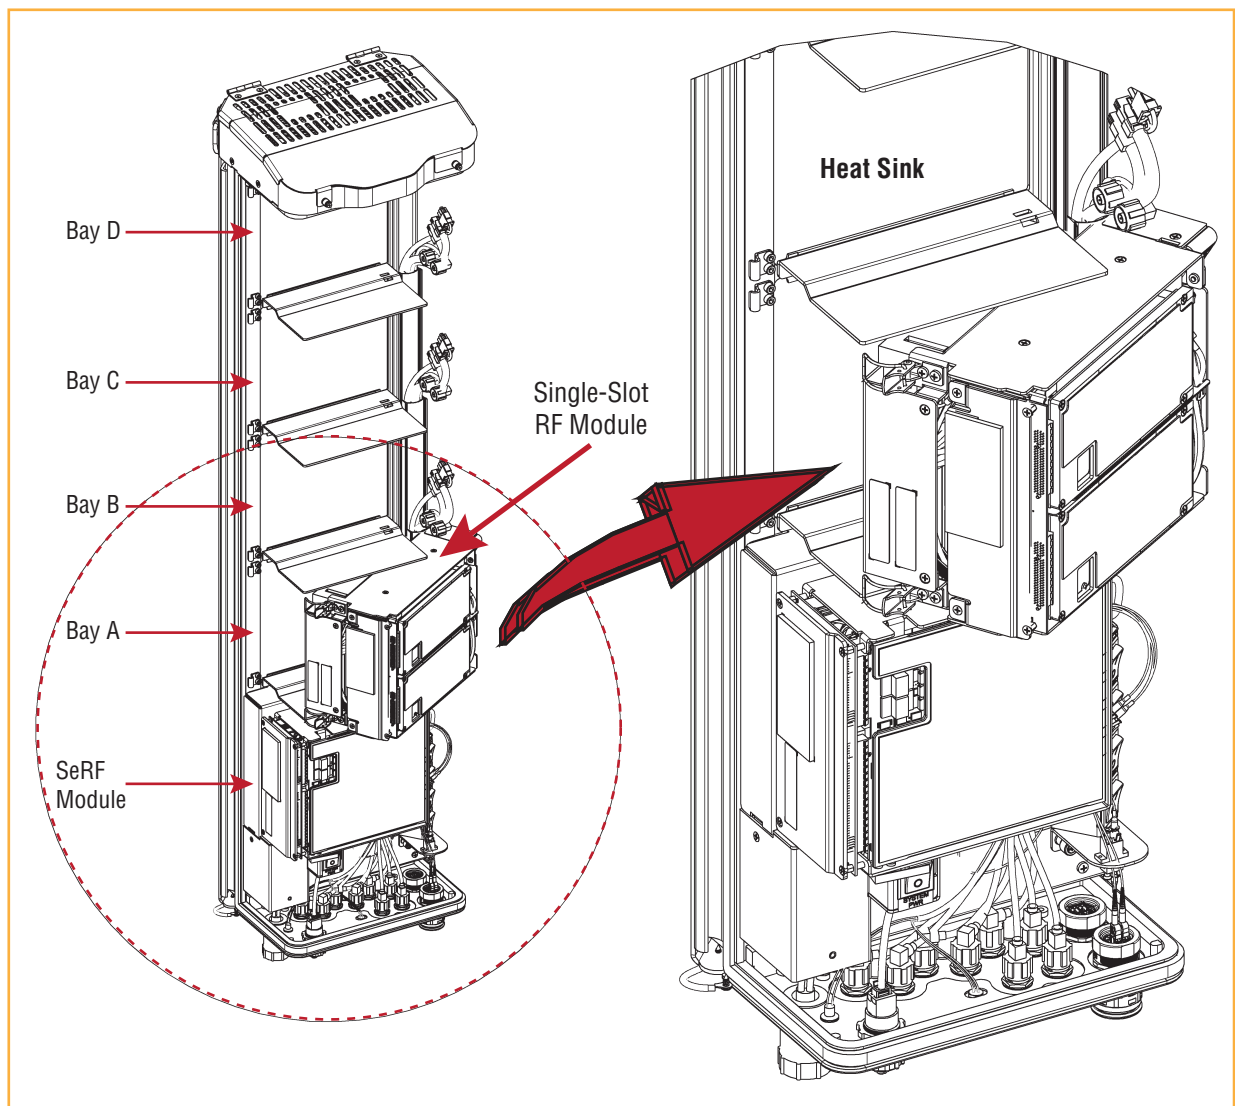

Figure 11. Installing a Single-Bay RF Module
- Single-Bay RF Module: Figure 11 on page 25